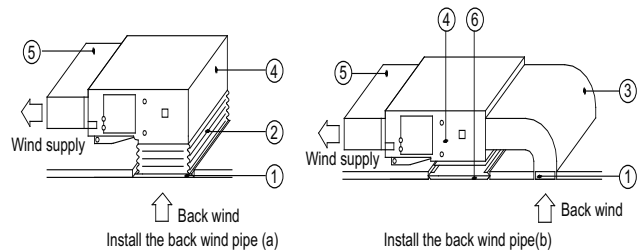

Fig. 35 - Return Air Duct
5. The installation method can be chosen with considering the conditions of the building and maintenance etc. (see Fig. 35).